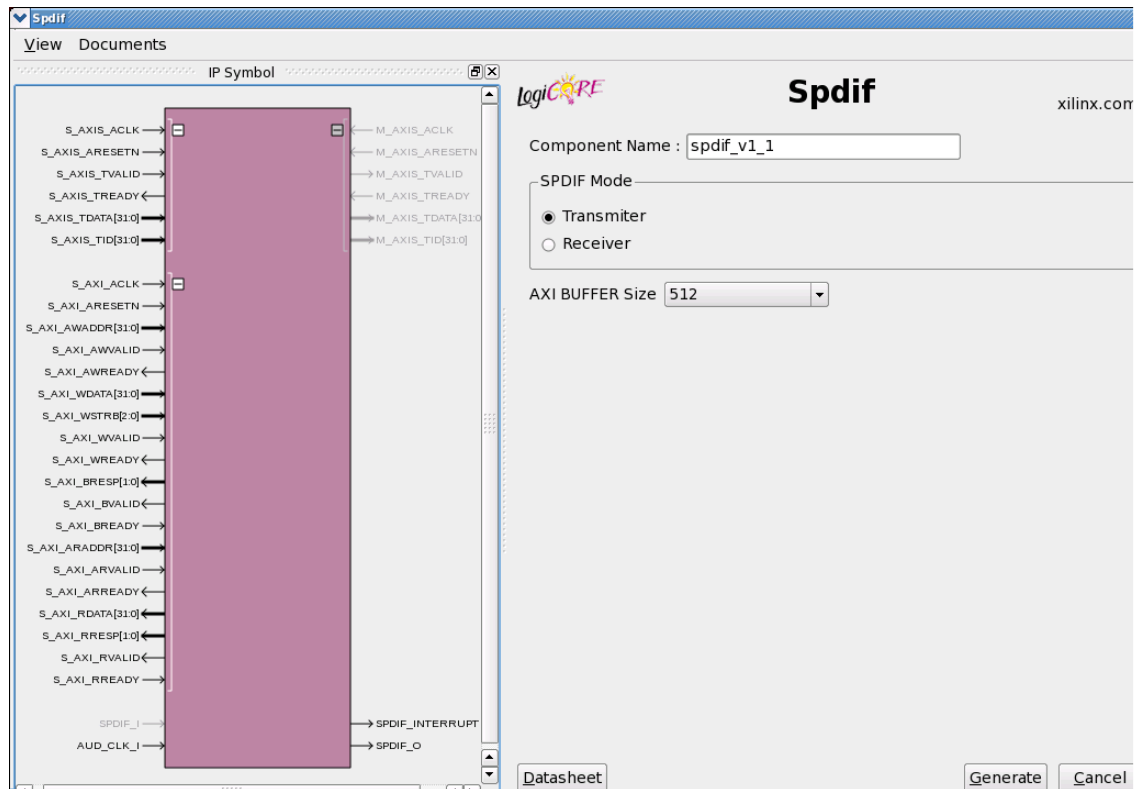

Figure 3-1: SPDIF Main Screen
- Double-click the core to display the main SPDIF configuration screen (see Figure 3-1).